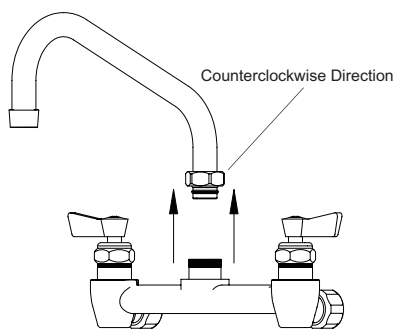

Fig.1 (Removal of old Swing Spout)
2. Loosen swing or swivel gooseneck spout (see Fig.1) by turning it counterclockwise. (May require adjustable wrench) Lift swing or swivel gooseneck spout out of control valve body.